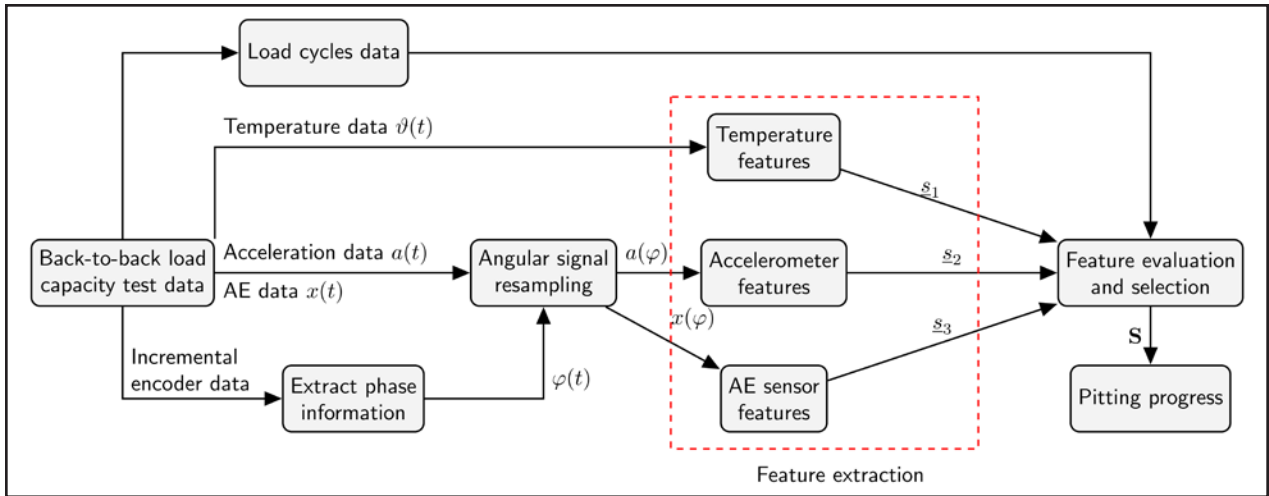
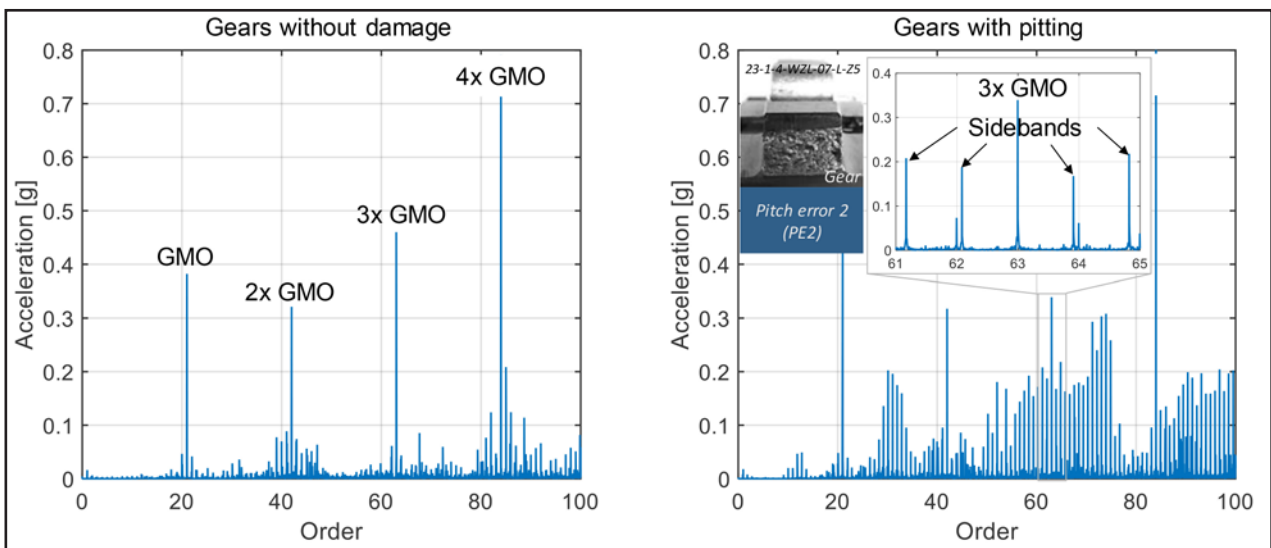
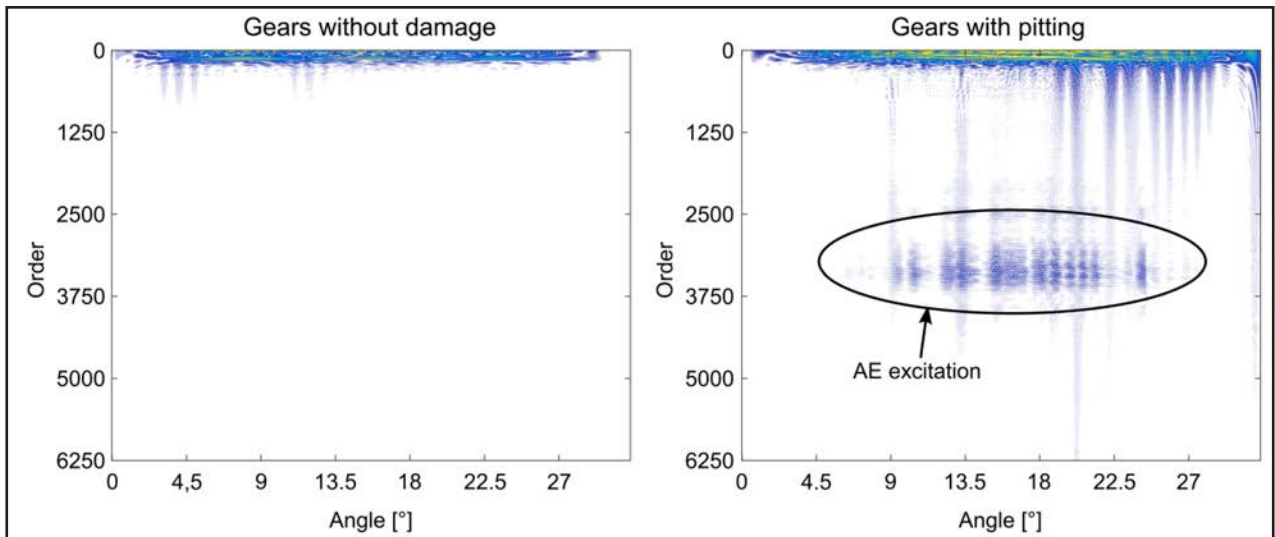

Figure 6 Schematic diagram of the proposed pitting diagnosis system.
Figure 8 Order spectra of acceleration sensor 1 signal (PE2 test).
Figure 9 Wigner-Ville distribution of AE sensor signal (PE2 test).
The data were processed to extract quantifiable indicators for the pitting damage. The angular signal resampling, the feature extraction, feature evaluation and feature selection constitute the proposed pitting diagnosis system (Fig. 6).
**Acquired sensor signals.** The above-mentioned load capacity tests lead to the acquired signals in Figure 8 and Figure 9. As already in context with the signal processing chain in Figure 6 referenced, locally distributed tooth pitting induces additional vibrations. This is clear in the order spectra of acceleration sensor 1 (Fig. 8). The left plot shows the order spectrum of gears without damage from the PE2 load capacity test. Here, acceleration amplitudes with the gear meshing order (GMO) and its harmonics are dominating the signal spectrum. The inset in the right order spectrum shows the pitting damage. Here, an extensive stimulation of sidebands at one order around the GMO's harmonics can be observed. This supports the idea of extracting features out of the sideband amplitudes between the GMO's harmonics.
In Figure 9 the Wigner-Ville distribution of the AE sensor signal from the PE2 test is shown. And again, the left plot represents the angle-order distribution of the AE signals without any gear damage, whereas the right plot shows the AE signal distribution of a pitted tooth flank in meshing contact. The figure shows that pitting leads to excitation of frequency components around 130 kHz. Therefore, the abovementioned statistical features, generated from the bandpass-filtered AE sensor signal, allow gathering additional robust pitting features.
**Discussion of suitable features.** After the sensor signals were processed using the signal processing chain in Figure 6, only the features with the highest Fisher criterion value will be presented in this discussion. For a clearer presentation, only a few features are shown in the following figures. The below discussed features are normalized through all tests to zero-mean feature values with a standard deviation of  $\sigma=1$  using translation and scaling.